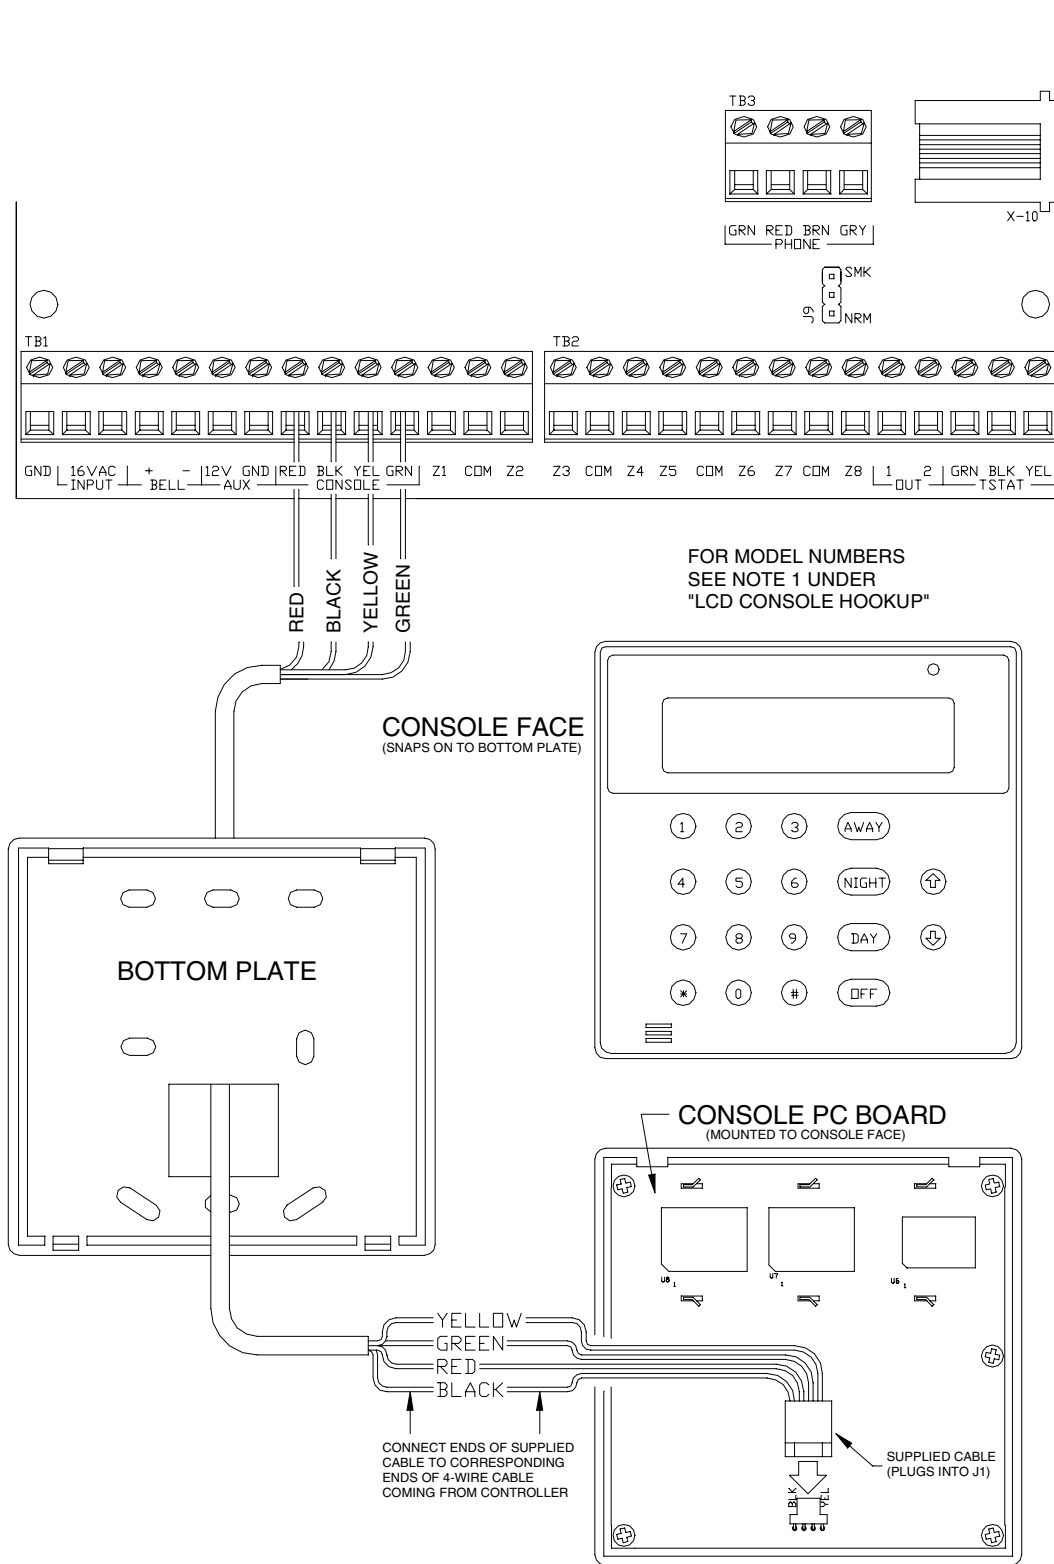

FIGURE 6 - CONSOLE CONNECTIONS
2. Use 4-conductor 22-gage wire, 1000 feet maximum length. Consoles can be homerun or daisy chained. This length shall be divided by the total number of consoles at the end of the run. For example, for 4 consoles, the maximum length reduces to 250 feet. All LCD Consoles are connected to the same 4 wires, RED (+12), BLK (Ground), YEL (A), GRN (B).
5. Refer to **FIGURE 6 (CONSOLE CONNECTIONS)** for this configuration.